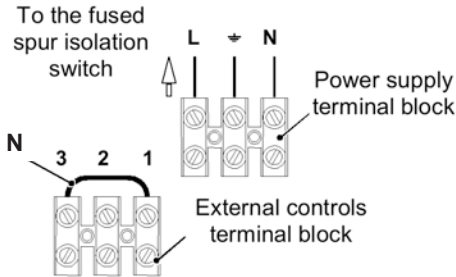

Fig. 6.16
- Connect the electrical supply flexible cord coming from the fused spur isolation switch to the power supply terminal block of the boiler (Fig. 6.16) keeping the same connections for the live (brown wire) and the neutral (blue wire). External 3 A fuse or fused plug with same current rating is recommended. **Do not connect live wires to terminals to which the room thermostat must be connected.**
When connecting any type of external control, the link N in Fig. 6.16 must be removed.